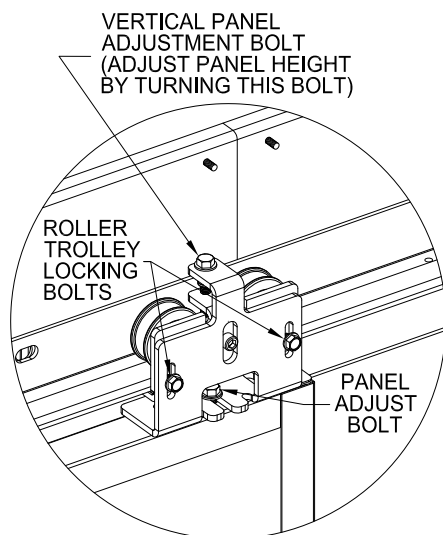

Figure 23: Adjusting Bolt Locations
- Loosen the two horizontal panel adjusting bolts on top of each panel(s). These bolts will slide between the two forks on the panel trolley bracket in the header (Figures 23 & 24).